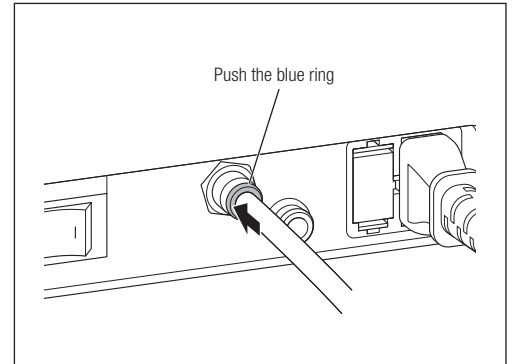

Fig. 3
- 3) To remove the Air Hose, pull the Air Hose out while pushing the blue ring toward the Control Unit (Fig. 3).